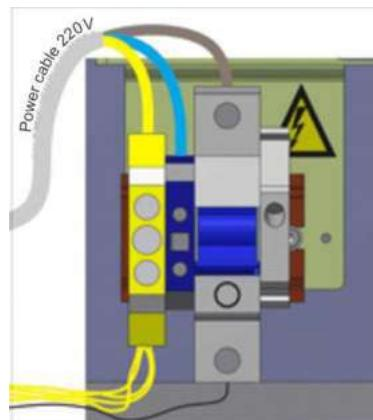
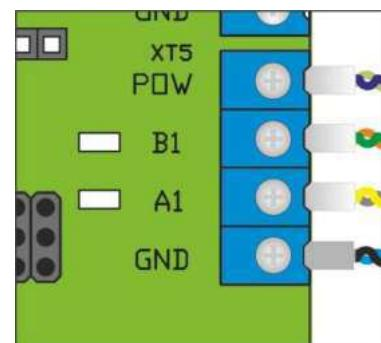

Fig.18 – Connection of power supply cable
Fig.19 – Connection the communication cable with control panel to terminals
a) Power supply cable ~220 V to be connected (Fig. 18):
- **Neutral (N)** to be connected to terminal ~220V (N);
- **Earth (PE)** to be connected to earthing terminal (PE).
b) Control panel cable to be connected to terminals (Fig. 19):